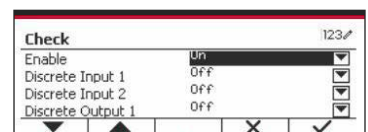

Figure 64
4. Select the list item and press the softkey corresponding to the ✓ icon to change setting. (See Figure 64)